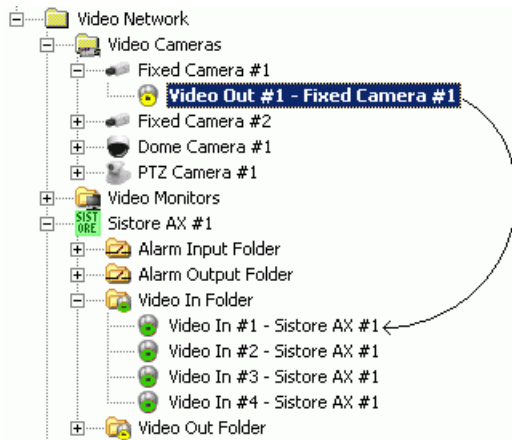

Fig 20 Connecting cameras to SISTORE
6. Drag and drop the 'video signal' to the SISTORE video-in node (Fig 20).